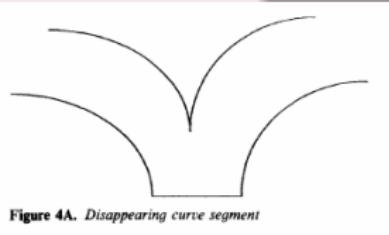

Figure 4A. Disappearing curve segment
- (fig. 4A) Disparition de segment